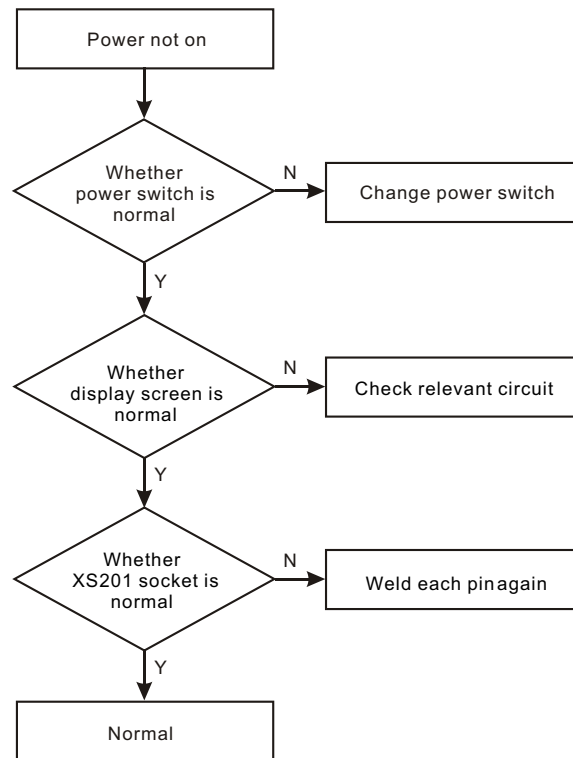

Figure 7.2.2.1 Troubleshooting flow chart for “Power not on”
1. Troubleshooting process for “Power not on” is shown in the figure 7.2.2.1:
2. Troubleshooting process for "Not read disc" is shown in the figure 7.2.2.2: